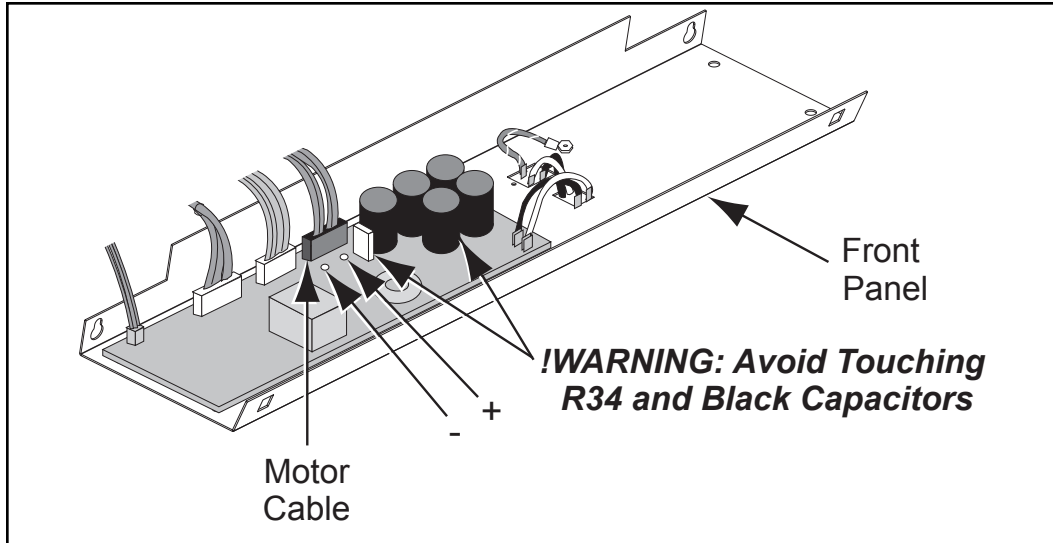

Figure 1
A. While the treadmill is still fully elevated and running turn the main power switch to the off (O) position.
C. Avoid touching R34 and the black capacitors. Disconnect the motor cable. See Figure 1.
- A. Avoid touching R34 and the black capacitors. Connect the motor cable. See Figure 1.
- B. Turn the main power switch to the on (I) position.
- C.** Touch the voltage meter leads to the lower board + and - solder points. See Figure 1. Touch the red lead to positive, and the black lead to negative. On a 115V unit the motor voltage at 10 mph (16 kph) with no load should not go below 83 VDC. On a 220V unit the motor voltage at